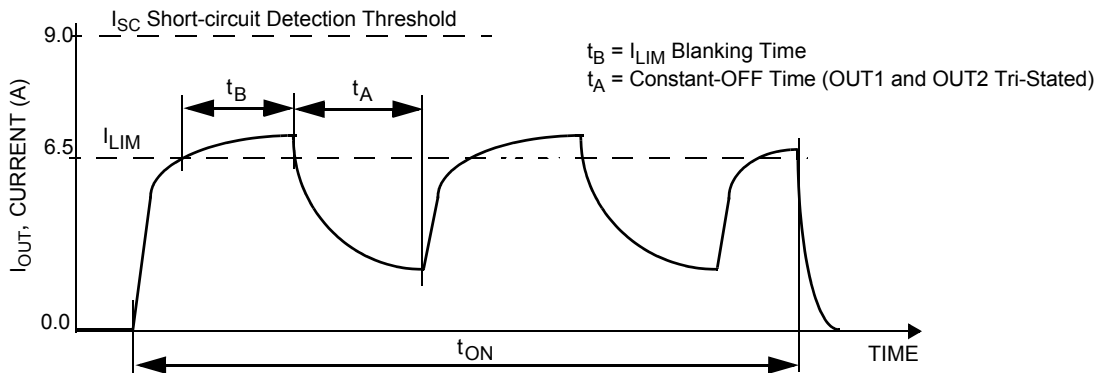
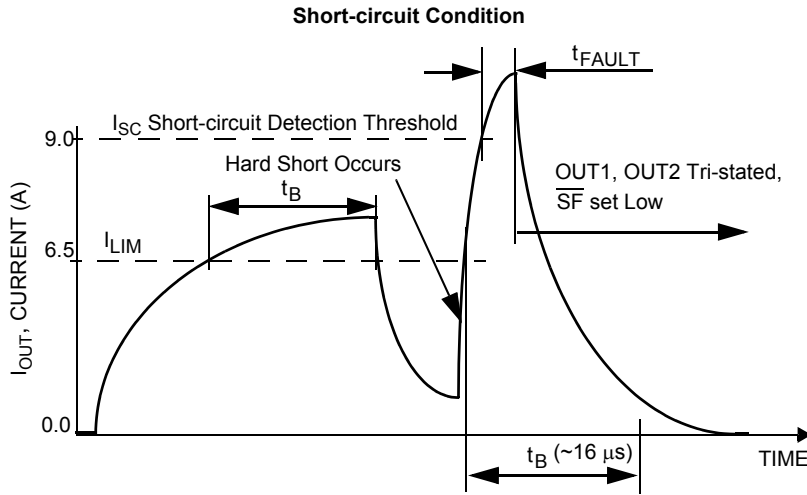
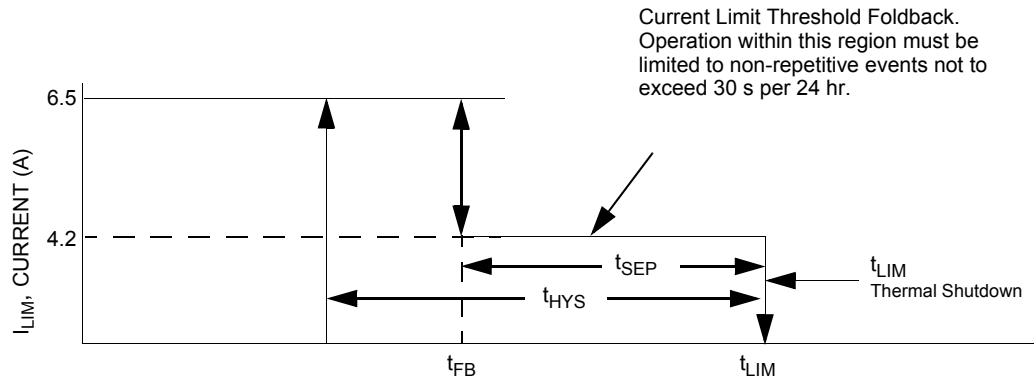

Figure 7. Current Limit Blanking Time and Constant-OFF Time
Figure 8. Short-circuit Detection Turn-OFF Time t_{FAULT}
Figure 9. Output Current Limiting Foldback Region
28. Load currents ramping up to the current regulation threshold become limited at the I_{LIM} value (see Figure 7). The short-circuit currents possess a di/dt which ramps up to the I_{SCH} or I_{SCL} threshold during the I_{LIM} blanking time, registering as a short-circuit event detection and causing the shutdown circuitry to force the output into an immediate tri-state latch-OFF (see Figure 8). Operation in Current Limit mode may cause junction temperatures to rise. Junction temperatures above $\sim 160\text{ }^\circ\text{C}$ causes the output current limit threshold to "fold back", or decrease, until $\sim 175\text{ }^\circ\text{C}$ is reached, after which the T_{LIM} thermal latch-OFF occurs. Permissible operation within this fold back region is limited to non-repetitive transient events of duration not to exceed 30 seconds (see Figure 9).